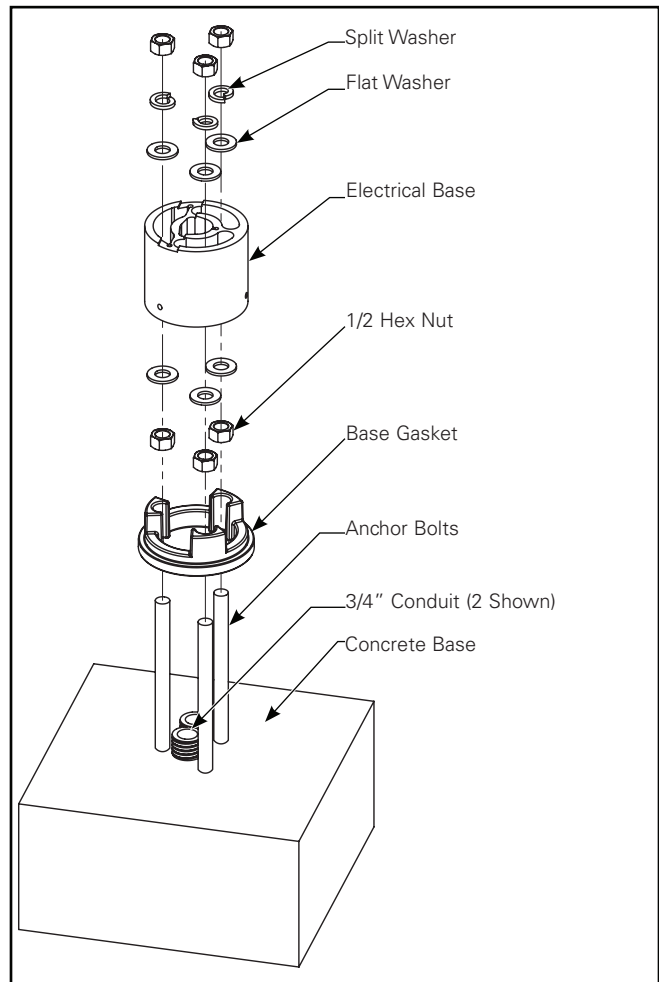

Figure 2.
5. Assemble (3) 1/2" hex nuts and (3) washers to the (3) anchor bolts. (Figure 2.)